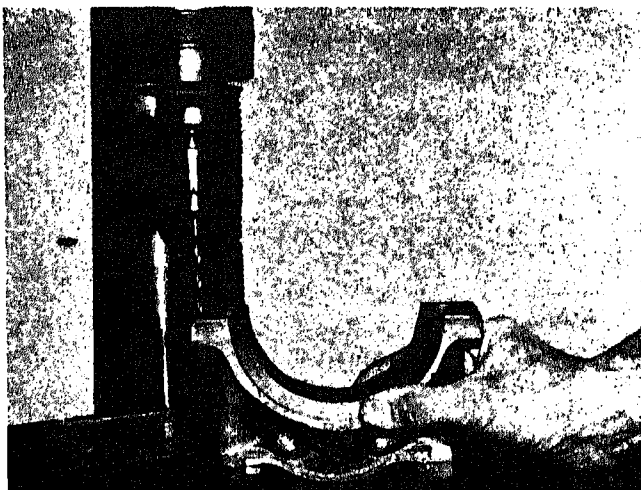

Fig. 1-1-14. Drilling dowel hole in rear main bearing cap
- d. Drill dowel holes, Fig. 1-1-14.